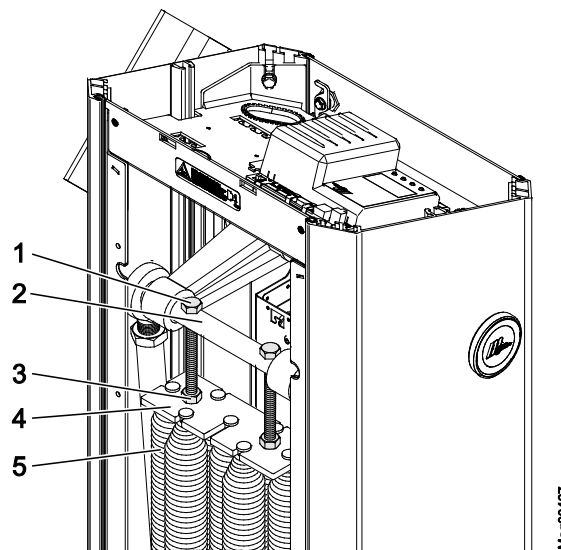

Fig. 39: Setting balancing springs Access XL2 and Access XXL
6. Evenly loosen the M16 nuts (Fig. 39, item 3).